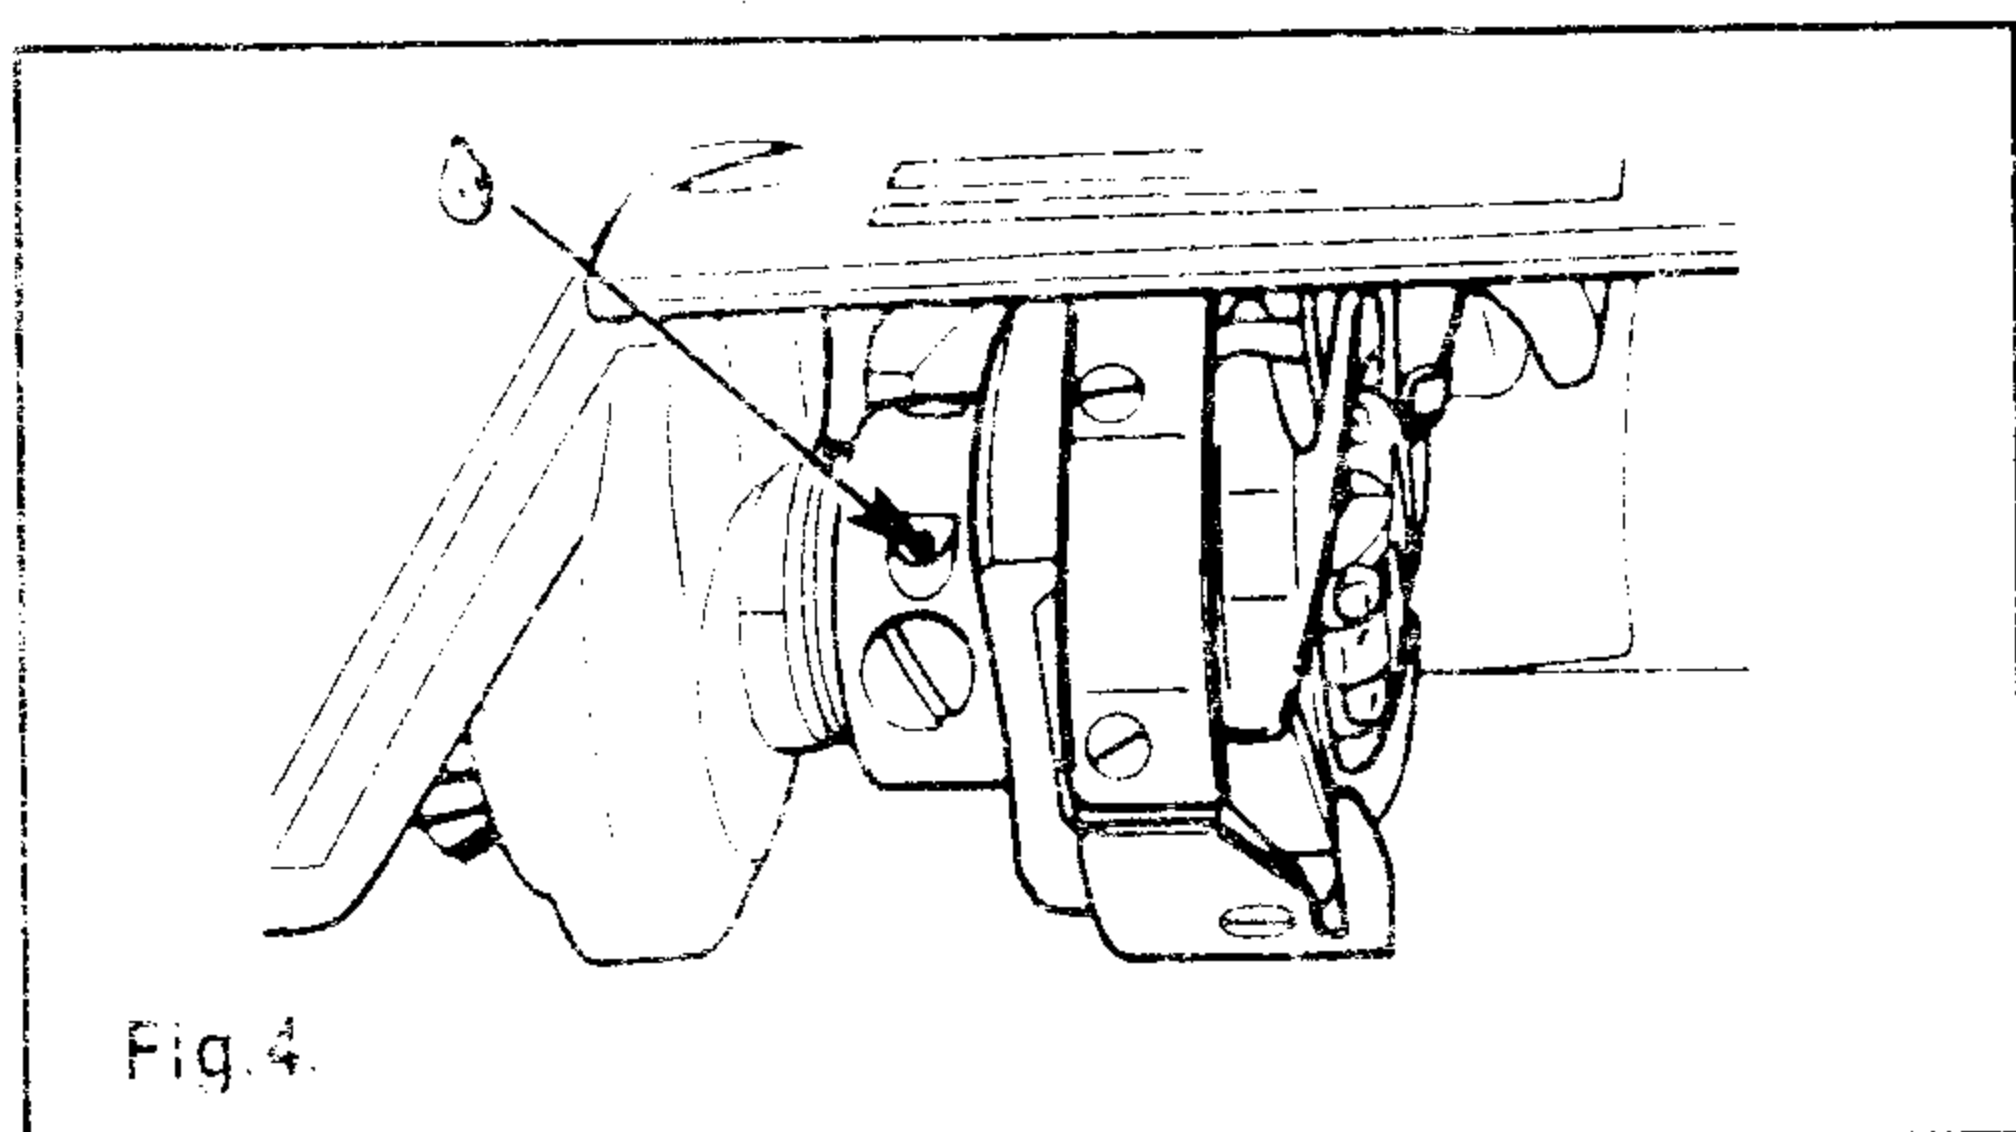

Fig. 4.
Loosen needle set screw (1), Fig. 4 Inset the needle in the needle bar and push it up as far as it will go.